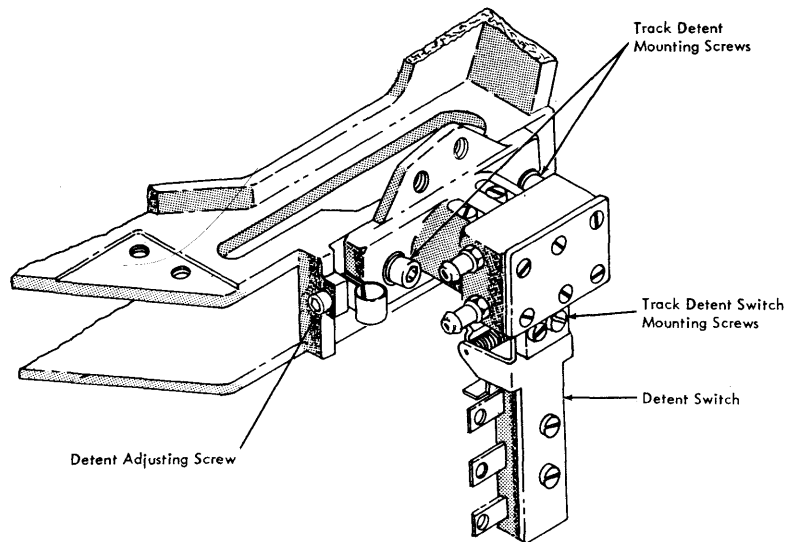

Figure 69. Track Detent Assembly
## Track Detent Assembly (5 million character) (Figure 69)
8. As you are monitoring this signal, loosen the detent mounting screws. Adjust the track detent adjusting screw until you obtain the largest signal. One vertical division on the scope face is equivalent to 0.001" of access arm movement (See Figures 69 and 72).